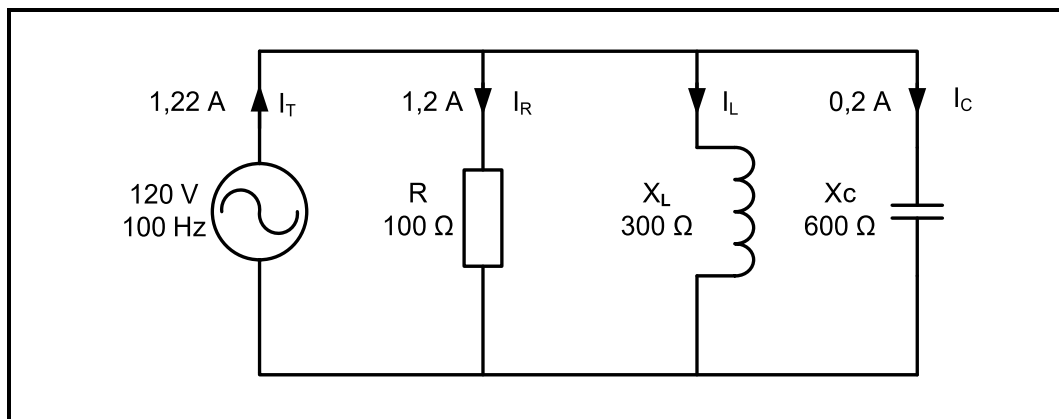

FIGURE 3.7: RLC PARALLEL CIRCUIT DIAGRAM
3.7 Refer to FIGURE 3.7 below and answer the questions that follow.